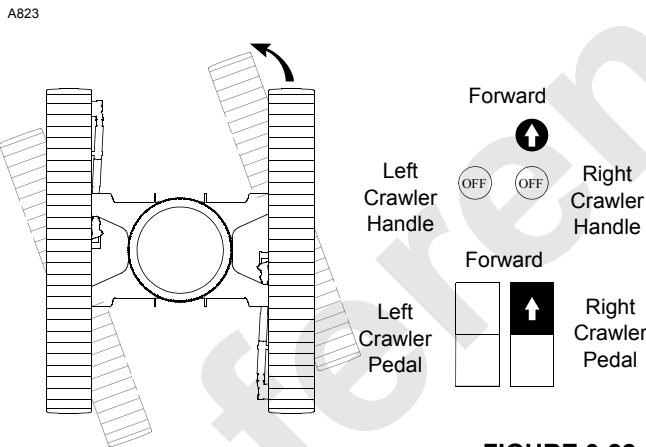

FIGURE 3-22
- Avoid sharp turns (Figure 3-22) if possible.
- To make a SHARP LEFT TURN (Figure 3-22), move right crawler handle/pedal to front from off and leave left crawler handle/pedal in off. Crane will pivot about left crawler.